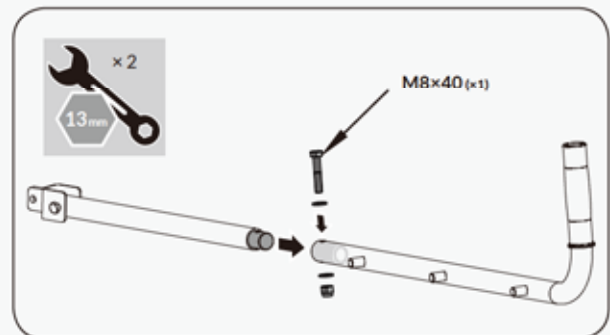

Figure 2c
3. Insert the shorter control lever into the longer lever. Align holes and fasten with M8×40 hex bolt, washers and nut. (See **Figure 2c**)